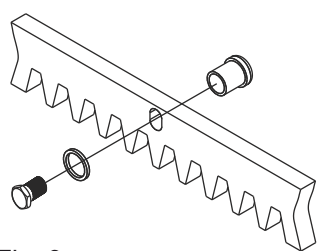

Fig. 9
5.2. Fix on each gear rack element the support pawls with the appropriate lock screws, making sure to put them in the upper part of the hole - Fig. 9;